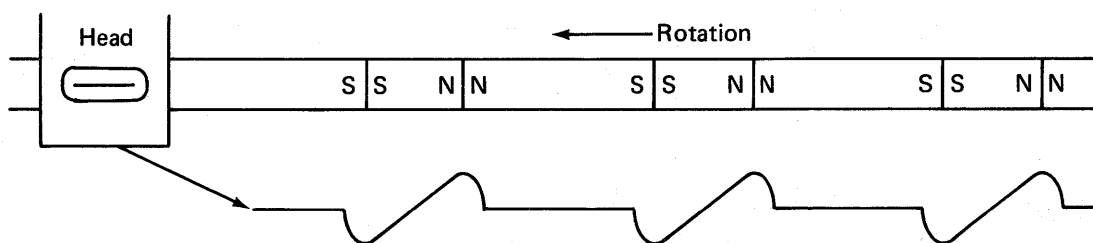

Figure 45. Dipole waveform
12. As these magnetic dipoles pass under the servo head, an electrical signal is induced by the change in magnetic flux at the poles. Note in figure 45 that at each set of south poles a negative pulse is induced. The size of the dipoles alternates between long and short, which causes a complete sine wave to be generated and then leaves a space before generating another sine wave.